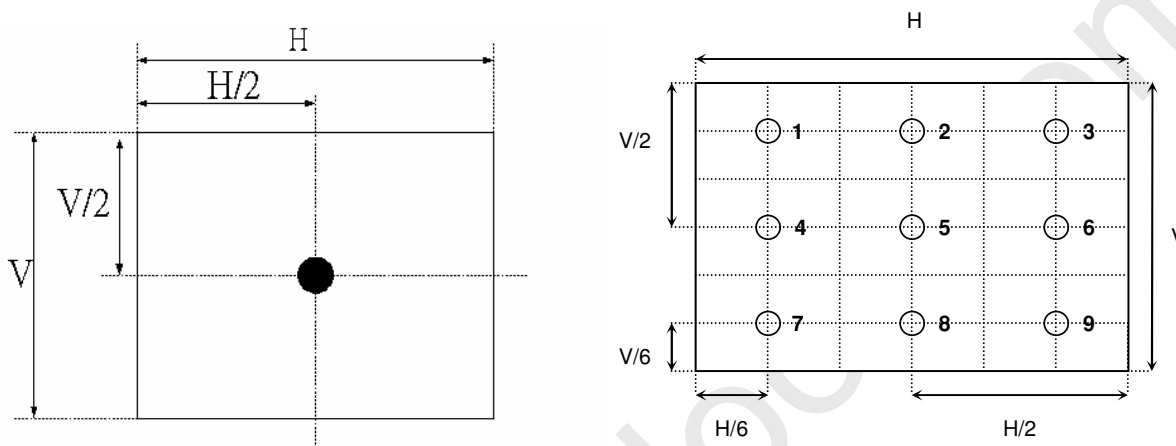

Fig.4-2 Optical measurement point
2. Surface Luminance is luminance value at point 5 with 100% dimming across the LCD surface 50cm from the surface with all pixels displaying white. For more information see Fig. 4-2. When lamp current $I_L=7.6\text{mA}$, $L_{WH}=L_{on5}$, where L_{on5} is the luminance with all pixels displaying white at center 5 location.